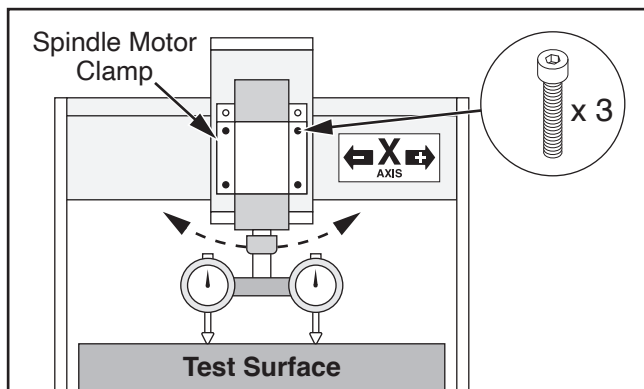

Figure 74. Example of tramping spindle to X-axis.
- If indicators show different values, loosen (3) of (4) spindle motor clamp cap screws a $\frac{1}{4}$ turn and gently tap clamp in desired direction of movement until indicators display matching values (see **Figure 74**), then tighten cap screws and proceed to **Step 7**.